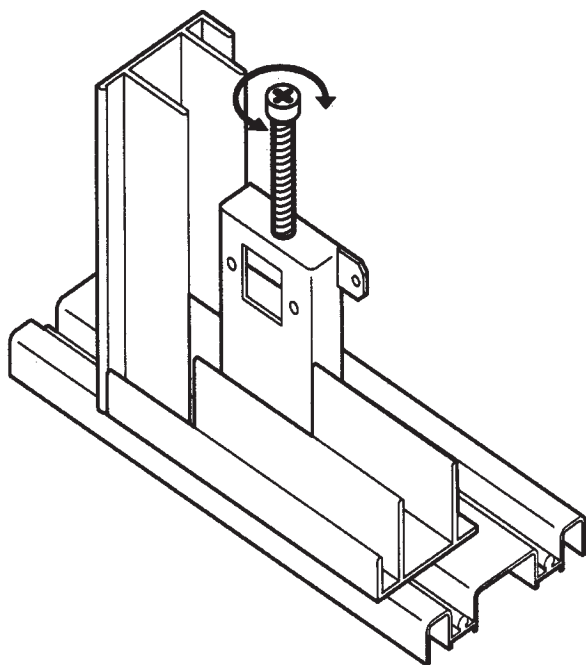

Figure 4
- A. Slide the front Panel (#1) to the side closest to the room's entrance door (This is how the wardrobe doors will be in position to look their best). Look at the space between the door edge and the wall. You want the door edge and the wall to be flush. If you see space at the top or bottom edge of the Panel (#1), turn the adjusting screw on top of the Steel Wheel Assembly (#13) on the lower back of the Panel (#1) nearest the wall. Turn the screw left or right until the Panel (#1) aligns flush with the wall (See Figure 4).